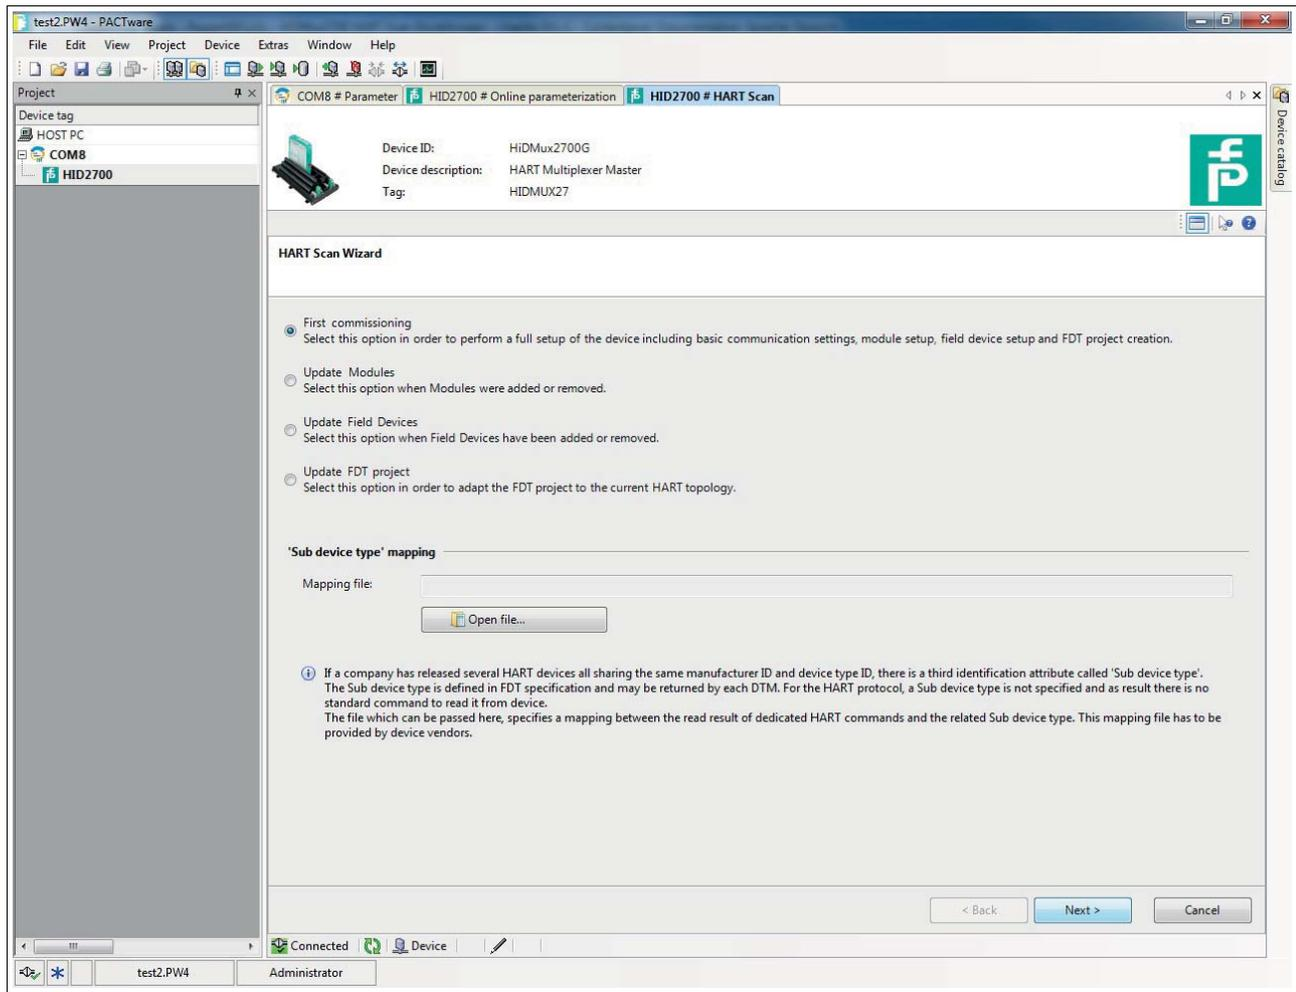

Figure 6.13 HART Scan Wizard
1. In the **HART scan wizard** section in the **HART scan** window, select one of the following options, see Figure 6.13: